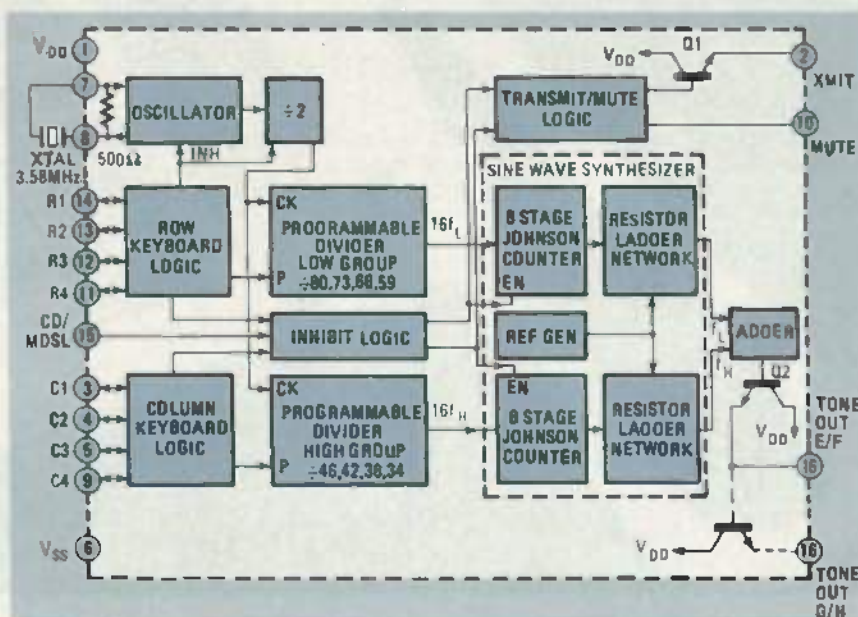

FIG. 2—INSIDE A DTMF ENCODER. The S2559E DTMF generator IC is shown here in block-diagram form.
A block diagram of a typical tone-encoder IC is shown in Fig. 2. The IC illustrated there is a Gould AM1 (3800 Homestead Rd., Santa Clara, CA 95051) S2559E. The desired DTMF signals are activated by a twelve-key (3 x 4) or sixteen-key (4 x 4) matrix keypad that is connected directly to the row- and column-input pins of the tone-generator IC. Two major types of keypads are used: One is the standard telephone pushbutton keypad. They are used with IC's that generate tones whenever the corresponding row and column pins are pulled high. As shown in Fig. 3-a, that keypad consists of a series of DPST momentary switches with a common line that simultaneously pulls the corresponding row and column outputs high when pressed. Note that some encoders are active low. For those, the keypad common line is connected to ground. Then, the appropriate row and common outputs are grounded when a key is pressed. The other, and simpler, keypad arrangement is shown in Fig. 3-b. Referred to as a calculator-type or X-Y keypad, it consists of SPST momentary switches and can be built easily. However, it can only be used with tone generators that use calculator-type scanning circuitry to detect switch closures. The S2559E contains such circuitry. Generally, the data sheet of a particular tone encoder will specify the type of keypad required.